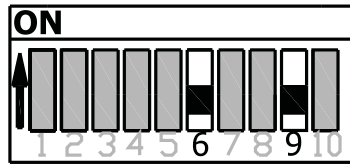

Figure 16. Dip switches
2. Set the program dip switches 6 and 9 to the Off position to enter programming mode. Refer to Figure 16.
4. Press and hold the **Raise** button to move the screen up to the desired Open (UP) stop position. Jog between lower and raise as needed to fine tune to the desired stop position.